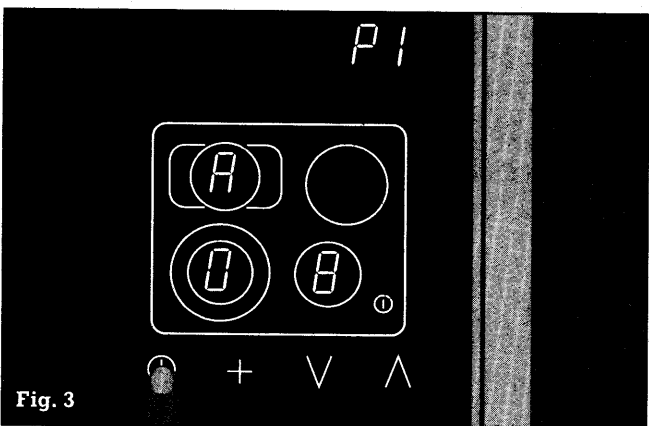

Fig. 3
- Store the required value by touching the symbol ⌚. You will hear a signal and P 1 lights constantly (fig. 3).